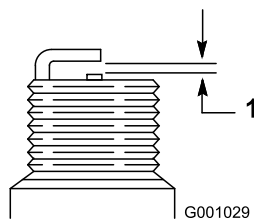

Figure 56
4. Set the gap between the electrodes on a new spark plug at 0.030 inch (0.76 mm) (Figure 56).